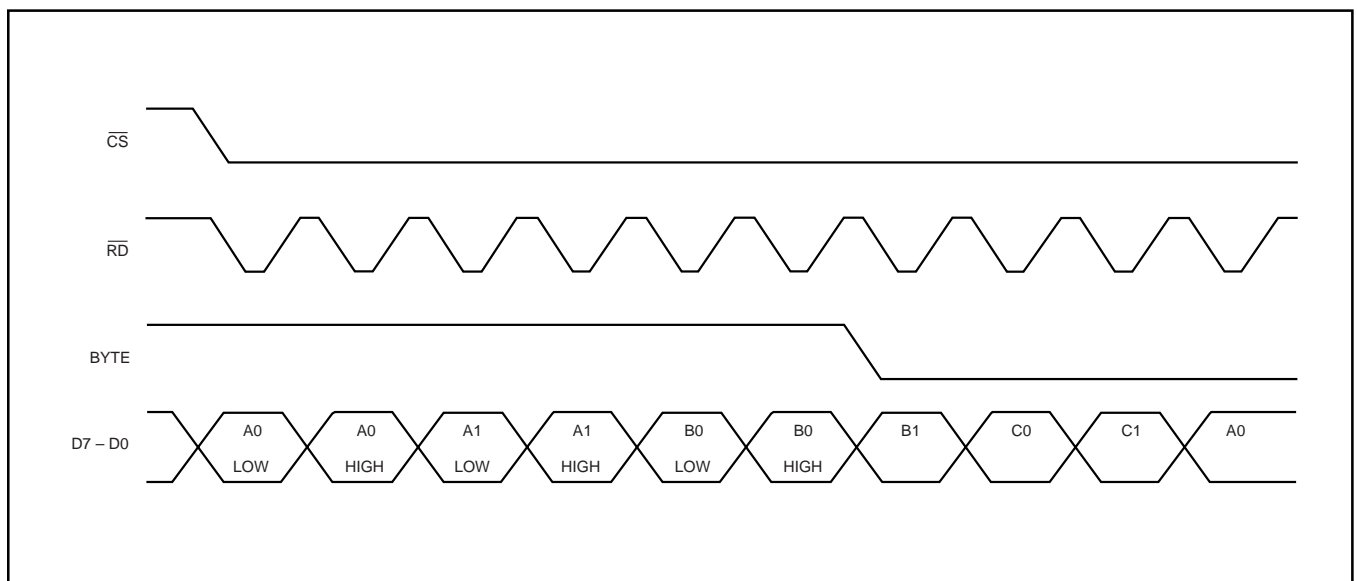

FIGURE 11. Reading Data in Cycling Mode.
**BYTE**—If there is only an 8-bit bus available on a board, then BYTE can be set HIGH. (see Figure 11) In this case, the lower 8 bits can be read at the output pins D15 to D8 or D7 to D0 at the first  $\overline{RD}$  signal and the higher bits after the second  $\overline{RD}$  signal. If the ADS8364 is used in the cycle or the FIFO mode, then the address and a data valid information is added to the data if ADD is HIGH. In this case, the address will be read first, then the lower 8 bits, and finally the higher 8 bits.
With (A2 A1 A0) = 110, the interface is running in a cycle mode (see Figure 11). Here, data 7 down to 0 of channel A0 is read on the first  $\overline{RD}$ -signal and 15 down to 8 on the second as BYTE is HIGH. Then A1 on the second, followed by B0, B1, C0, and finally, C1 before reading A0 again. Data from channel A0 is brought to the output first after a reset-signal or after powering the part up. The third mode is a FIFO mode that is addressed with (A2 A1 A0 = 111). Data of the channel that is converted first will be read first. So, if a particular channel pair is most interesting and is converted more frequently (e.g., to get a history of a particular channel pair) then there are three output registers per channel available to store data.